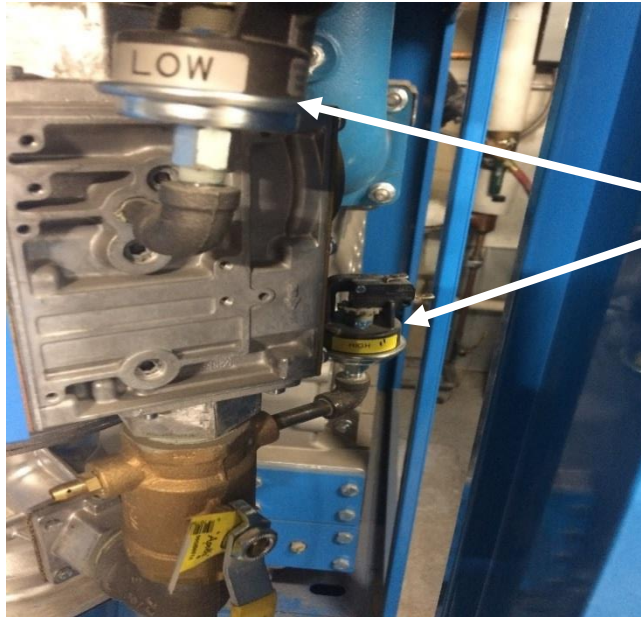
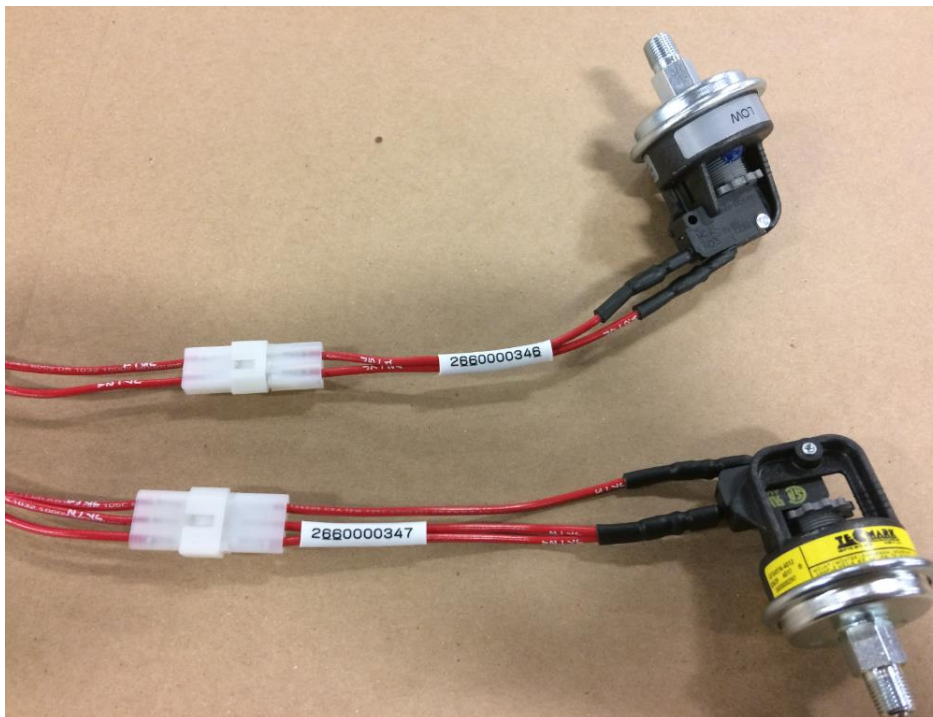

Figure 4
Figure 5
10. Using a 1/2" wrench, remove and replace high and low gas pressure switches (Figure 4) provided in kit. Be sure to apply gas thread sealant to new switches (Figure 5).